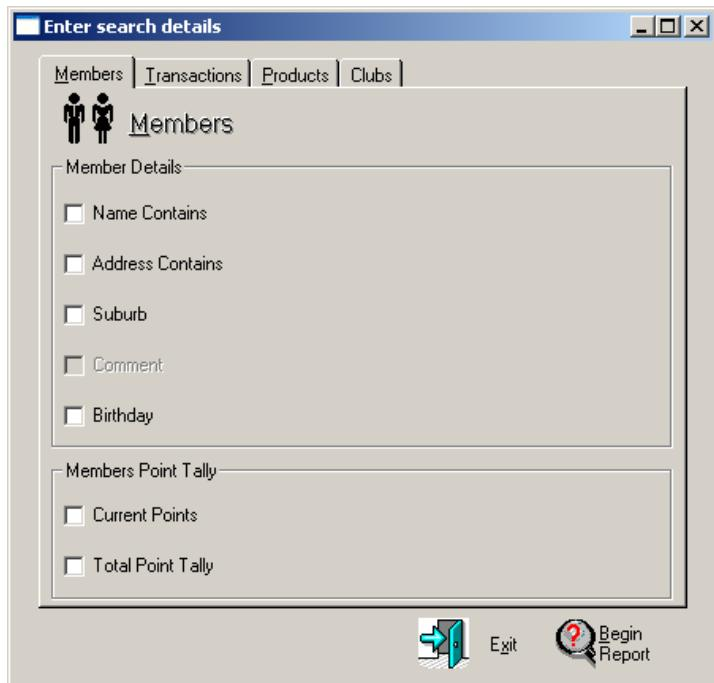

Figure 410
3. The first tab, 'Members' (figure 410), allows you to search on various member filter/s to produce a report.